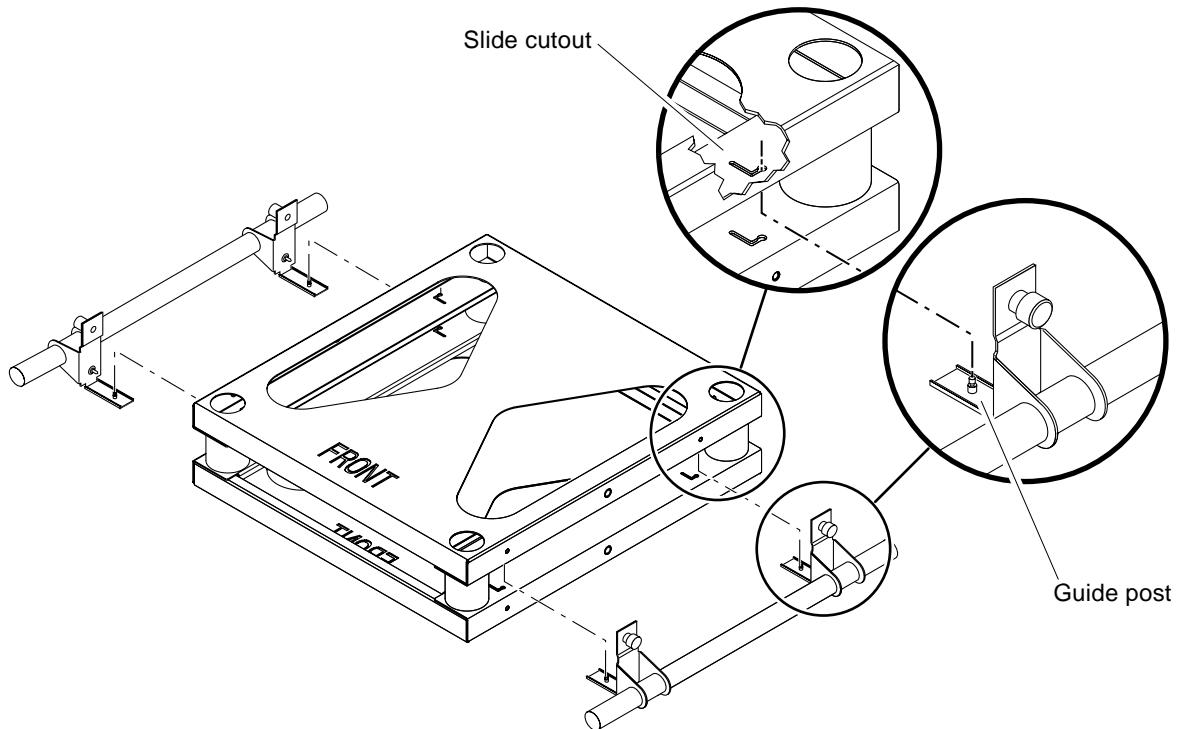

FIGURE 2 Shipping Cradle Details
- a. **As shown in FIGURE 2, align the two guide posts on the handle with the entry holes on the L-shaped slide cutouts.**